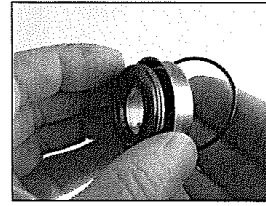
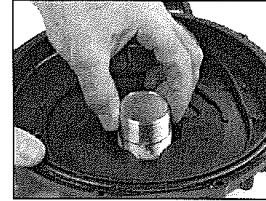

Fig. 6
Fig. 7
2. Lubricate and install the o-ring (Ref. 13) around back side of metal portion of the seal (See Fig. 6). Insert the stationary portion of the new mechanical seal (Ref. 12) by carefully pushing only on the outer metal ring as you press it into the casing cover (Ref. 16). Use a tool with 1-1/2" ID, such as 1-1/2" diameter PVC pipe, 4" long that fits over the carbon face of the seal, but pushes only on the metal ring to insert the seal. The carbon surface of the seal must be facing you during installation. Be careful to avoid scratching the seal's carbon surface. (See Fig. 7.)
3. Apply medium strength (Blue) threadlocker onto the (4) flange mounting bolts (Ref. 17) and install about (4) turns into the motor bracket (Ref. 20). Install the pump flange by sliding over the hydraulic motor (Ref. 31) shaft 45° clockwise from the up position. Once the flange has mated to the motor bracket (Ref. 20), rotate the flange 45° counterclockwise (CCW) to lock the flange into the slots. Tighten the (4) mounting bolts with a 13mm wrench to a torque of 10-foot pounds.